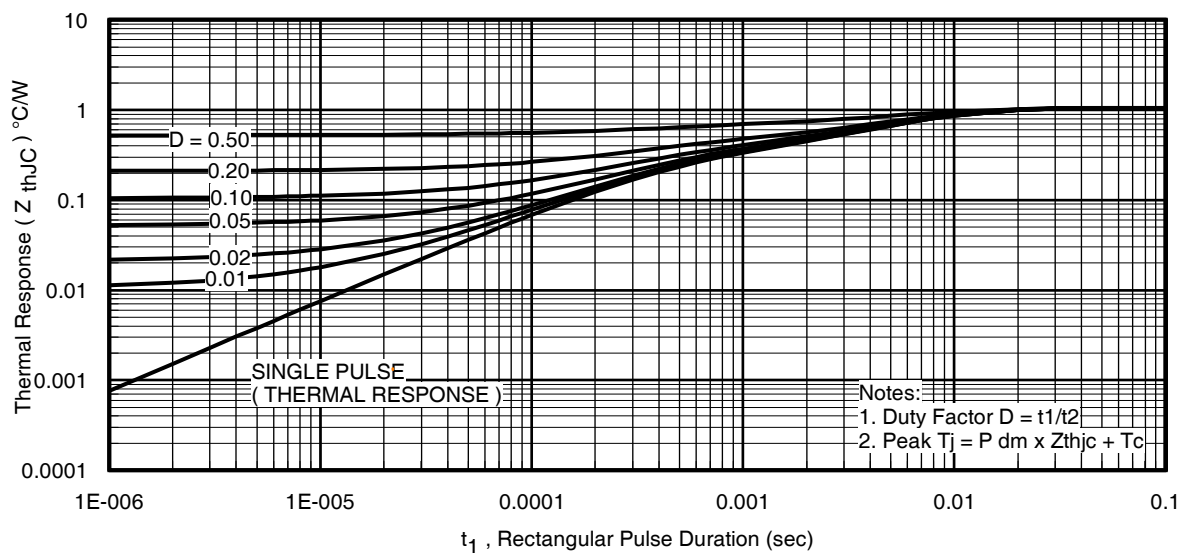

Fig 11. Maximum Effective Transient Thermal Impedance, Junction-to-Case
- ① Repetitive rating; pulse width limited by max. junction temperature. (See fig. 11).
- ② Limited by T_{Jmax} , starting $T_J = 25^\circ\text{C}$, $L = 0.399mH$
$Z_{thJC}(D, t_{av})$ = Transient thermal resistance, see figure 11)